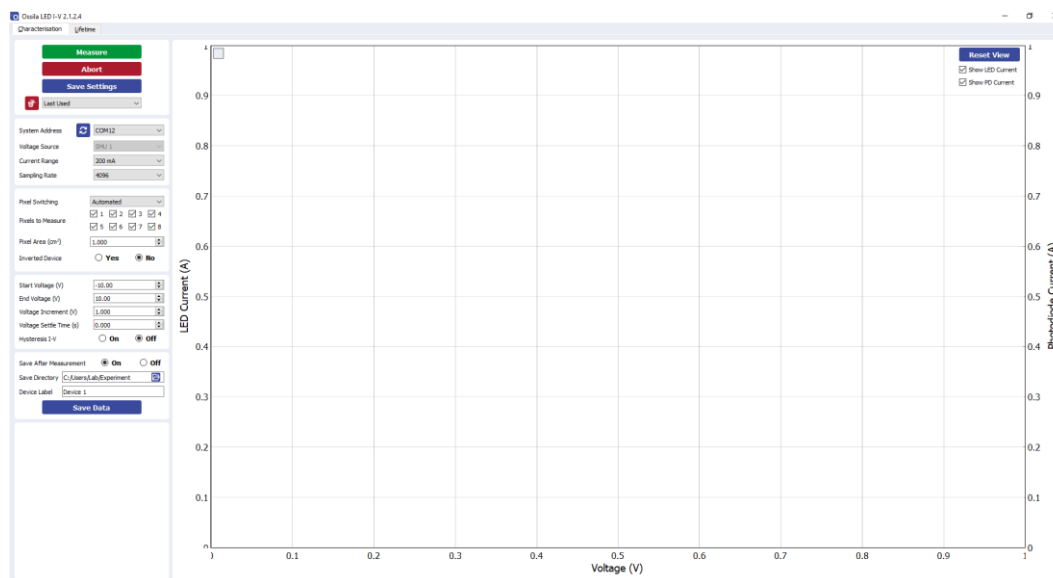

Figure 9.1. Ossa LED I-V software: Characterisation tab.
1. Start the Ossila LED I-V software. The window shown in **Figure 9.1** will open.
There are several settings in the program which must be filled in before taking a measurement. These are found in the column on the left of the window, as shown in **Figure 9.1**.